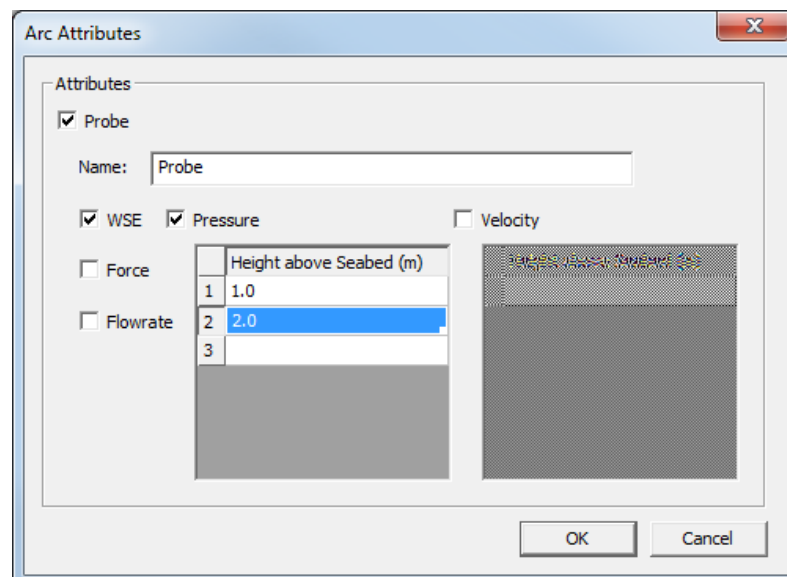

Figure 12 Arc Attributes dialog
- Using the **Select Feature Arc**  tool, double-click on the probe arc to bring up the *Arc Attributes* dialog (Figure 12).